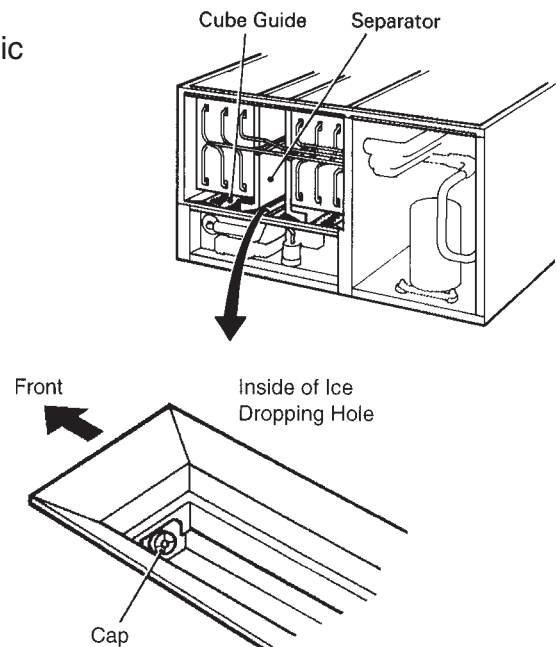

Fig. 15
- 7) Remove the insulation panel. Remove the cap located on the front bottom part of the ice dropping hole. Drain the water tank. See Fig. 15.
- 5) Remove the cap located on the front bottom part of the ice dropping hole. Drain the water tank. See Fig. 15.